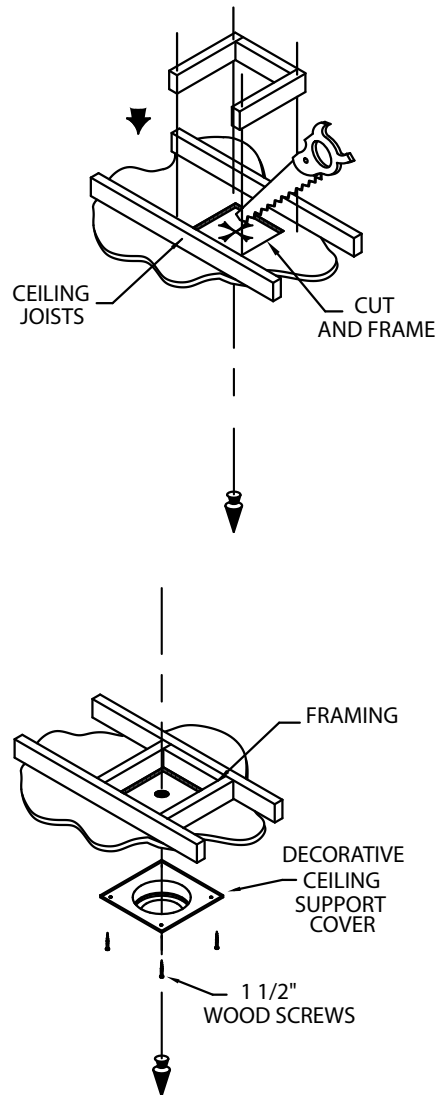

Figure 14
**Step 3.** To install the Round Ceiling Support/Wall Thimble Cover in a flat ceiling, refer to **Table 1, page 8** and cut a square hole in the ceiling (unless otherwise specified by the appliance manufacturer) centered on the hole drilled in Step 2. Frame the hole as shown **(Fig. 14)**.